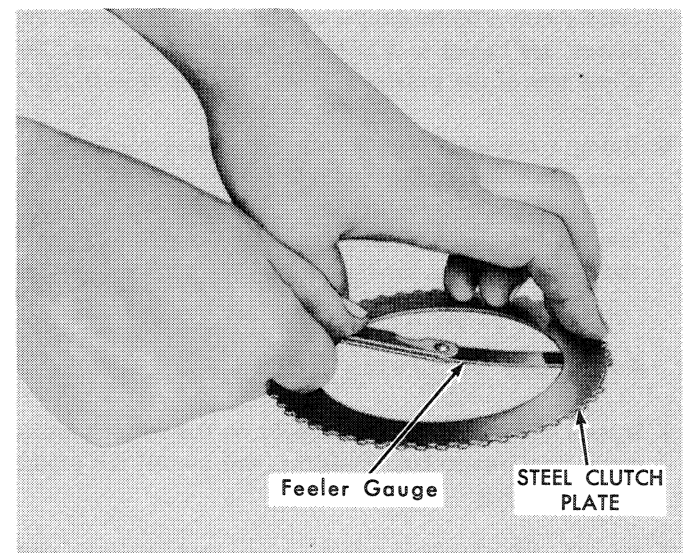

Figure 87
7. Inspect the clutch plates for heat, distortion, wear, and scoring. Check the coning of the steel plates. Position the plates on a flat surface, then check the coning with a feeler gauge, as shown in Figure 87. The plates are coned to 0.015" – 0.020" clearance. Replace any of the plates with coning less than 0.015".